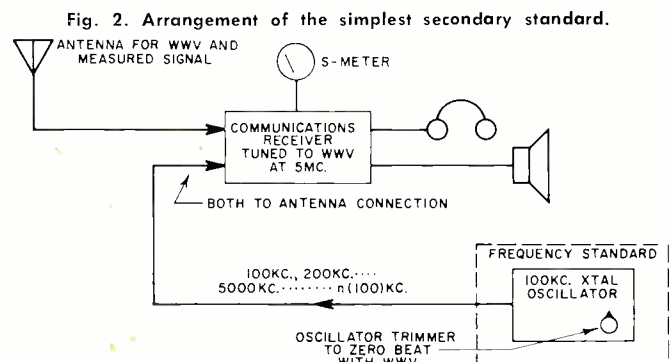
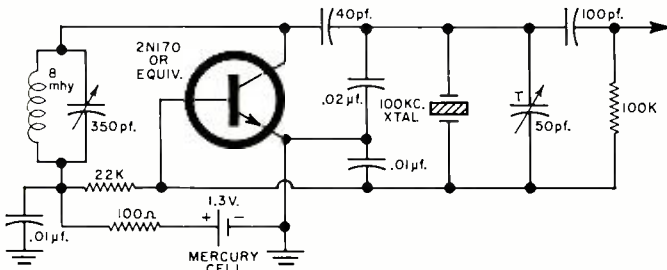

Fig. 2. Arrangement of the simplest secondary standard.
Fig. 3. Typical circuit of oscillator useful as a standard.
Fig. 2. Three variations of a high-power GTCR switch. (A) Free-running type uses trigger diodes to initiate switching action. (B) Normally off monostable version is triggered on by application of positive-going pulses. (C) Normally on version requires a negative-going signal applied to the gate electrode to turn the GTCR off. The GTCR is a Motorola MGCS 821-2.
The simplest type of secondary frequency standard is illustrated in block form in Fig. 2. It is a stable crystal-controlled 100-kc. oscillator. The oscillator is equipped with a trimmer capacitor connected across the crystal, or with some other arrangement to allow very small adjustments (up to several hundred cycles per second) of the frequency of the generated signal. This allows compensation for variations in the oscillator frequency due to such things as temperature and voltage variations. A typical 100-kc. crystal oscillator circuit suitable for use as a secondary frequency standard is shown in Fig. 3.